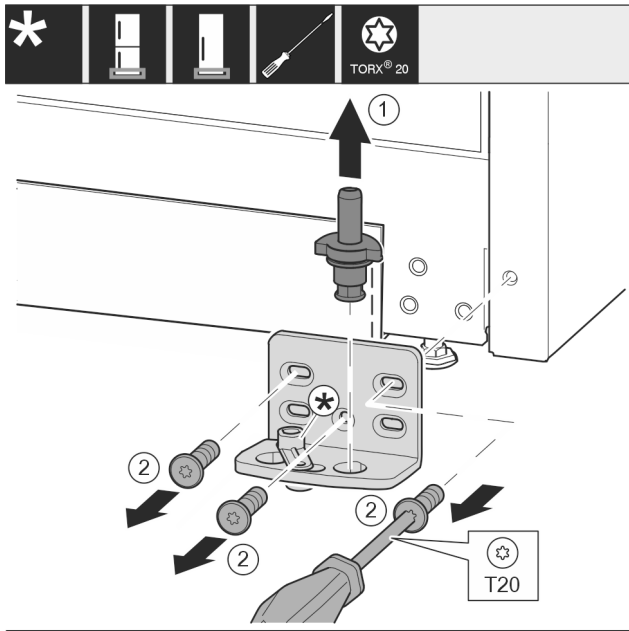

Fig. 15
- ▶ Completely pull out the bearing pin Fig. 15 (1) upward.
- ▶ Use a screwdriver to unscrew the screws Fig. 15 (2) and remove the swap bearing block.